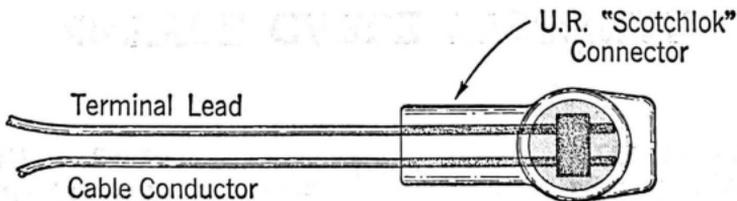

Fig. 2
- (2) Insert these conductors into the grooves of the connector and push in as far as possible. See Fig. 2.